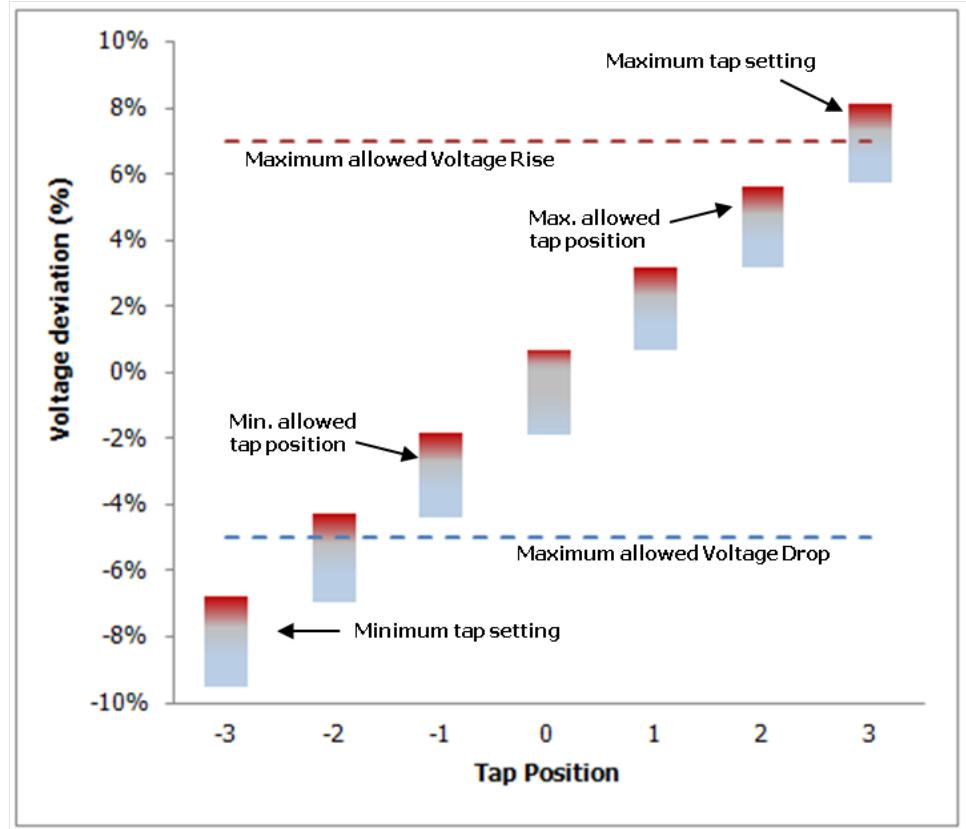

Figure 41.3.2: Distribution transformer tap limits
1. If *Distribution Transformer Tap Limits* are specified by the user, the tap range of transformers will be limited within *Min. allowed tap position* and *Max. allowed tap position*. This is illustrated in Figure 41.3.2, where a transformer with seven tap positions is limited to taps “-1” to “2”, which limits the transformer voltage rise to 7 % and voltage drop to -5 %. The height of each bar is determined by the voltage rise and voltage drop across the transformer in the production and consumption cases, respectively.